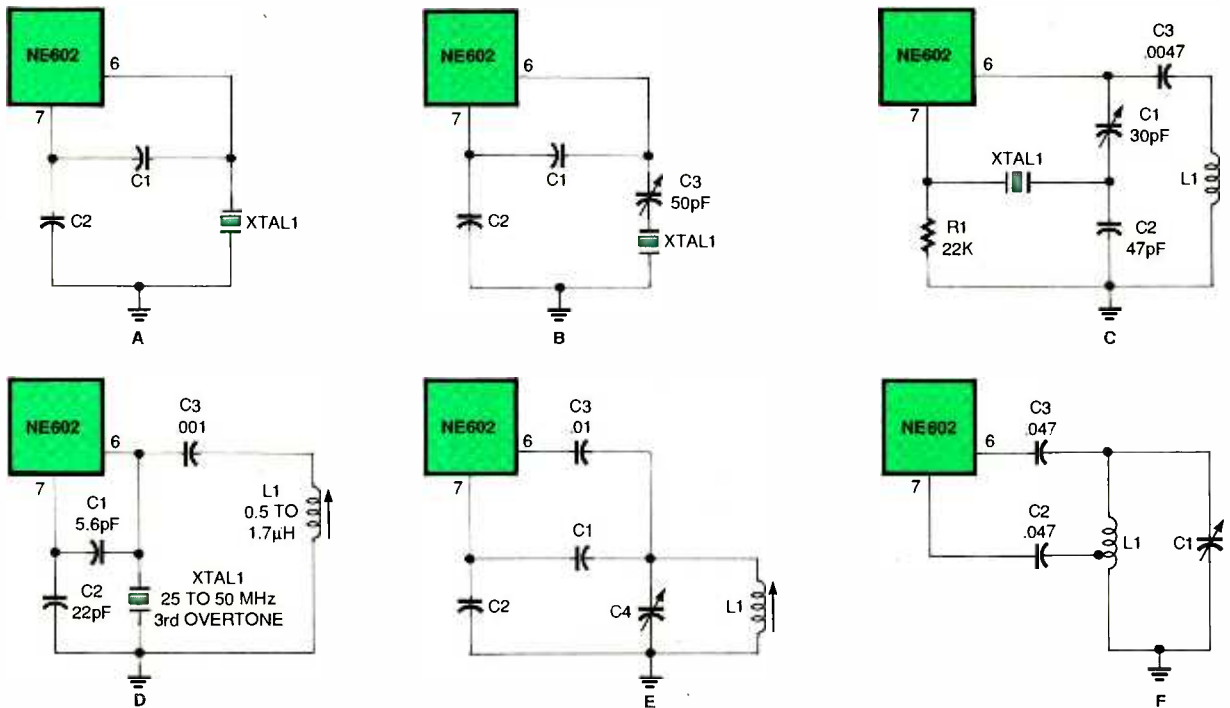

Fig. 7. The local oscillator for the NE602 can take the form of either a crystal-controlled (a through d) or a resonant-tank circuit (e and f).
the drill caddy support so the threaded rod protrudes through the 1-inch slot on the motor support. Form another guide as shown in Fig. 7-b, and position it on top of the drill driver. Fasten with a #4 sheet-metal screw, and adjust so the drill caddy moves freely with minimum wobble.
Figure 7-a shows a basic Colpitts crystal oscillator. It will operate with fundamental-mode crystals on frequencies up to about 20 MHz. The feedback network consists of a capacitor voltage divider (C1/C2). The values of those capacitors are critical, and should be approximately:
A problem with the circuit of Fig. 7-a is that the crystal frequency is not controllable except by replacing the crystal. The actual operating frequency of any crystal depends, in part, on the circuit capacitance seen by the crystal. Most crystals are designed for load capacitances of 20 or 32 pF, but
that can be specified if crystals are being ordered directly from a manufacturer. In Fig. 7-b, a variable, or "trimmer" capacitor is placed in series with the crystal in order to set the frequency. The trimmer capacitor can be adjusted to set the oscillator to the desired frequency.
Figures 7-c and 7-d are overtone-mode crystal-oscillator circuits. The circuit in Fig. 7-c is a Butler oscillator. The overtone crystal is connected between the oscillator emitter of the NE602 (pin 7) and a capacitive voltage divider that is connected between the oscillator base (pin 6) and ground. There is also an inductor in the circuit (L1) that must resonate with C1 to the overtone frequency of crystal XTAL1. Figure 7-c can use either 3rd- or 5th-overtone crystals up to about 80 MHz. The circuit in Fig. 7-d is a third-overtone crystal oscillator that works from 25 to about 50 MHz, and is simpler than Fig. 7-c.
A pair of variable-frequency oscillator (VFO) circuits are shown in Fig. 7-e and 7-f. The circuit in Fig. 7-e is a Colpitts-oscillator version, while Fig. 7-f is a Hartley-oscillator version. In both
oscillators, the resonating element is an inductor-capacitor (LC) tuned-resonant circuit. In Fig. 7-e, however, the feedback network is a tapped-capacitor voltage divider, while in Fig. 7-f it is a tap on the resonating inductor. In both cases, a DC-blocking capacitor to pin 6 is needed in order to prevent the oscillator from being DC grounded through the resistance of the inductor.